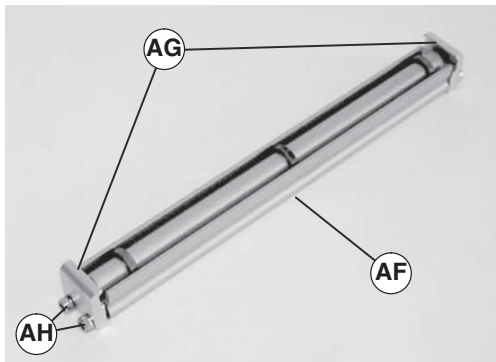
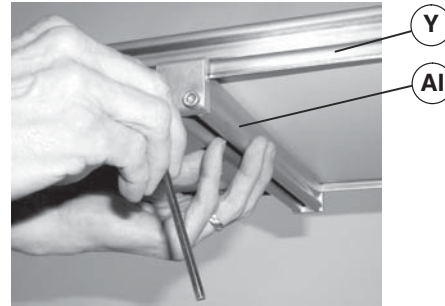

Figure 16
Figure 17
2. Loosely attach two clips (Figure 16, item AG) on roller and guard assembly (AF) with four screws (AH). Do not tighten screws.
3. Attach return roller assembly (Figure 17, item AI) on conveyor (Y). Tighten screws (Figure 16, item AH) to 80 in-lb (9 Nm).